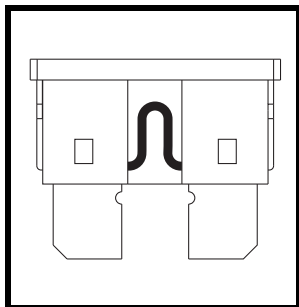

Figure 30. Working Fuse
2. Examine the fuse to be sure it is blown. See figures 30 and 30A.